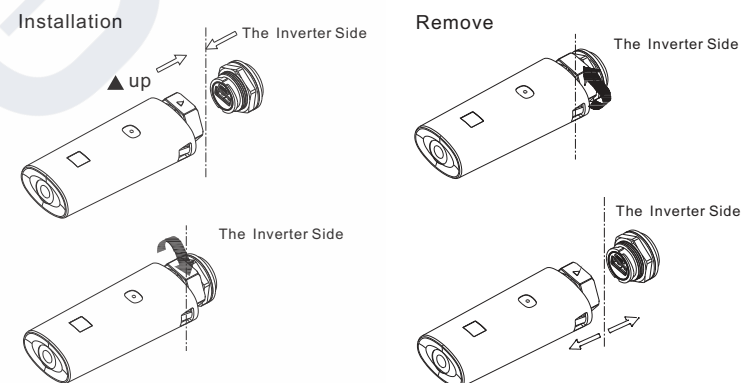

Fig 6.8B
- 3> As shown in Figure 6.8B, make sure that ▲ is on the front side, plug the monitoring module to USB_A port, and tighten the screws.